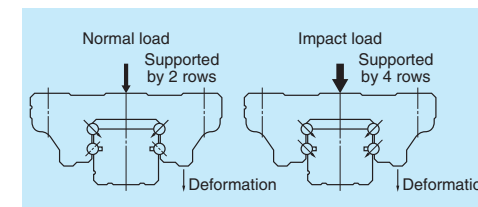

Fig. 5 Shock-resistance
(1) High precision and quality
(2) High reliability and durability
(3) Abundant types for any purpose
(4) Development of interchangeable parts for short delivery time
(5) Patented static load carrying capacity (impact resistance)
• When a super-high load (impact) is applied, our Gothic arch groove spreads the load to surfaces which usually do not come into contact in ball-type NSK linear guides. This increases impact load resistance (Fig. 5).
(6) Ultra high load capacity lineup